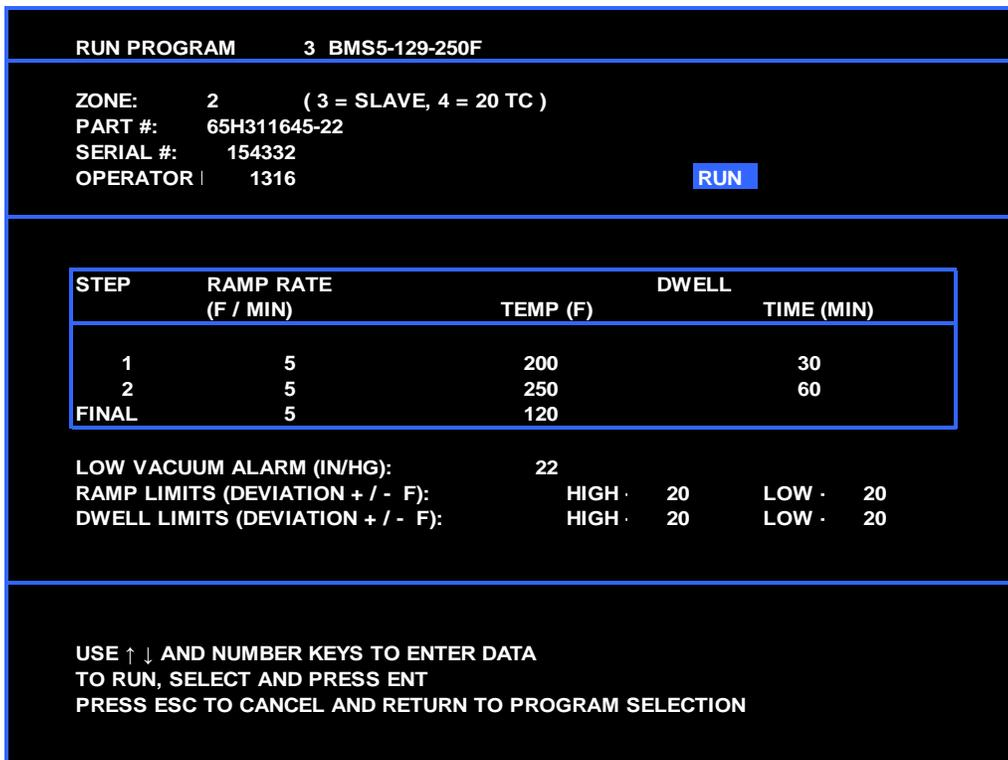

Figure 3-23. Run Program Screen
If a program has not been entered into memory, the EDIT PRGRAM Screen (Figure 3-22) will be displayed. If a program has been entered and saved into memory, the RUN PROGRAM Screen (Figure 3-23) is displayed.
To access the RUN PROGRAM Screen (Figure 3-23), press "1" from the MAIN MENU AND STATUS MONITOR Screen. Select the desired program to be RUN by entering the program number, or selecting the program with the cursor and pressing "ENT". Press 1 to RUN the program.
- a. On the GRAPH SCREEN, move the lower right cursor bar over the EDIT THE PROGRAM selection and press "ENT" to access the EDIT PROGRAM Screen (Figure 3-23). The cursor highlight bar will be in position over the first step of the program.